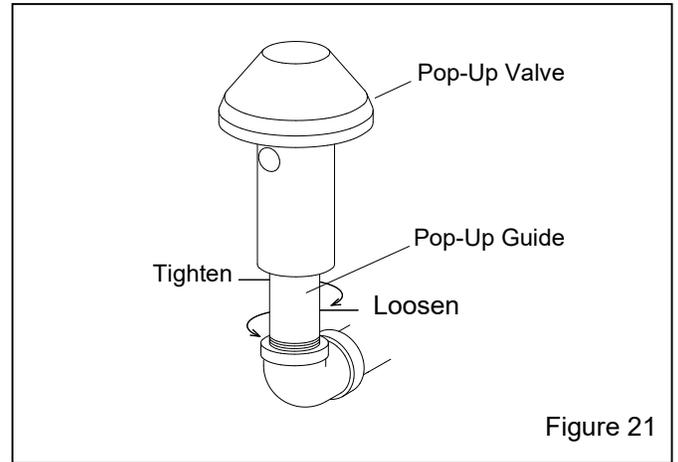

Figure 21
6.7.5 Use a short pipe wrench to unscrew the pop-up valve guide from the elbow by turning it counterclockwise, as shown in Figure 21. Remove the pop-up valve and guide from the machine.